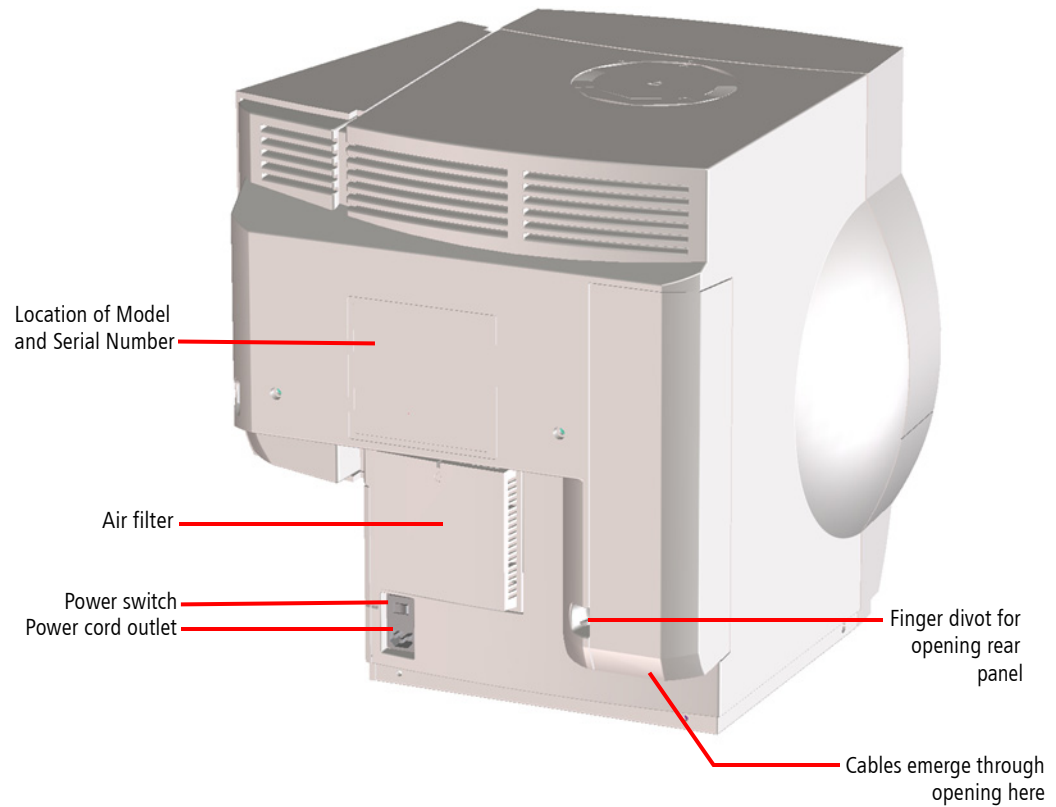

Figure 1.5 The HFA II-i – Rear View
The power switch is located on the rear panel of the instrument (Figure 1.5). The room lights should be dimmed or off when turning on the HFA II-*i*. Once it is powered up, the HFA II-*i* begins performing a self-diagnostic checkup. In the event that the internal computer detects a problem, a message will appear on the start-up screen. Call Carl Zeiss Meditec Customer Service, if necessary.
- 5 Replace rear panel, being careful to run cables out through slot at bottom (see Figure 1.5).